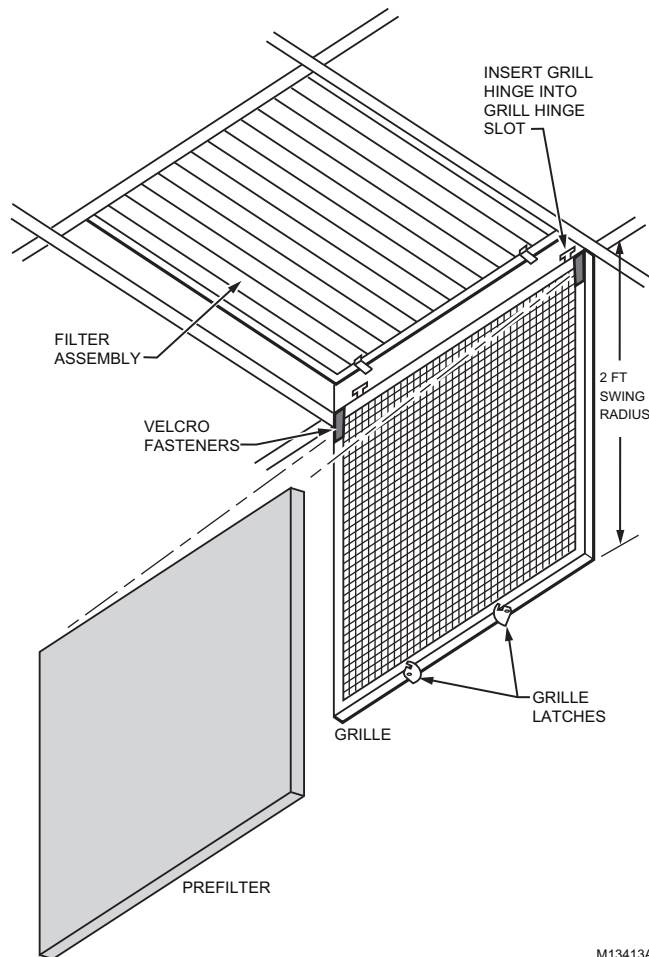

Fig. 12. Installing grille and prefilter.
1. Install the grille by inserting the grille hinge hooks into the opening in the return module. Be sure the grille hangs freely from the cabinet. See Fig. 12.
2. Install the prefilter by pressing the filter onto the velcro fasteners at the top of the hanging grille. See Fig. 12.